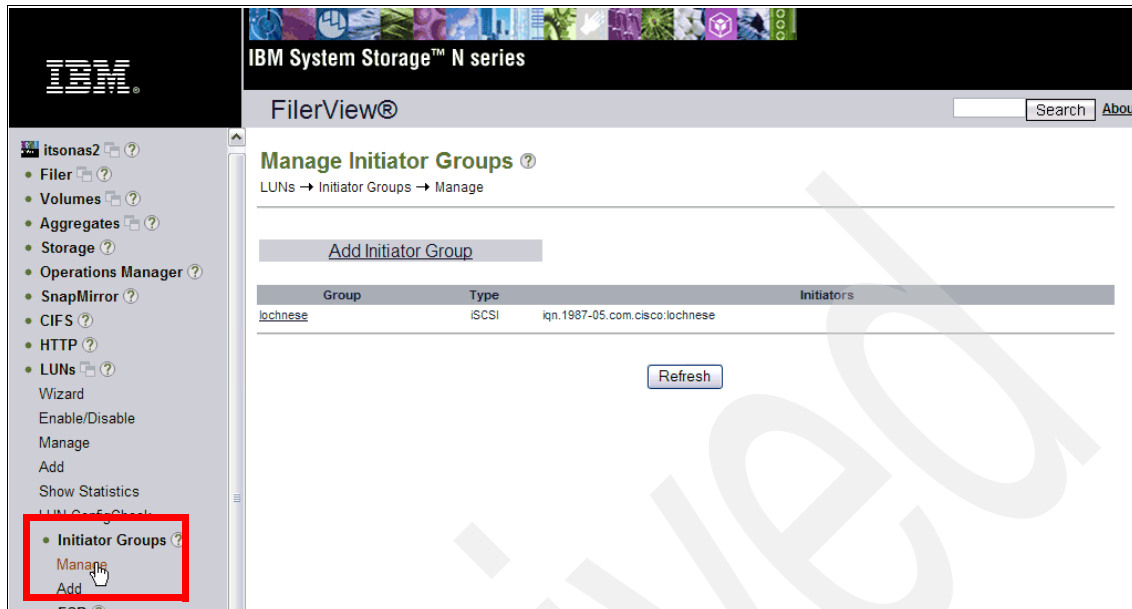

Figure 7-47 Verification of the iSCSI initiator creation
3. Under LUNs, select Initiator Groups → Manage, verify that the initiator group was created, as shown in Figure 7-47 on page 237.